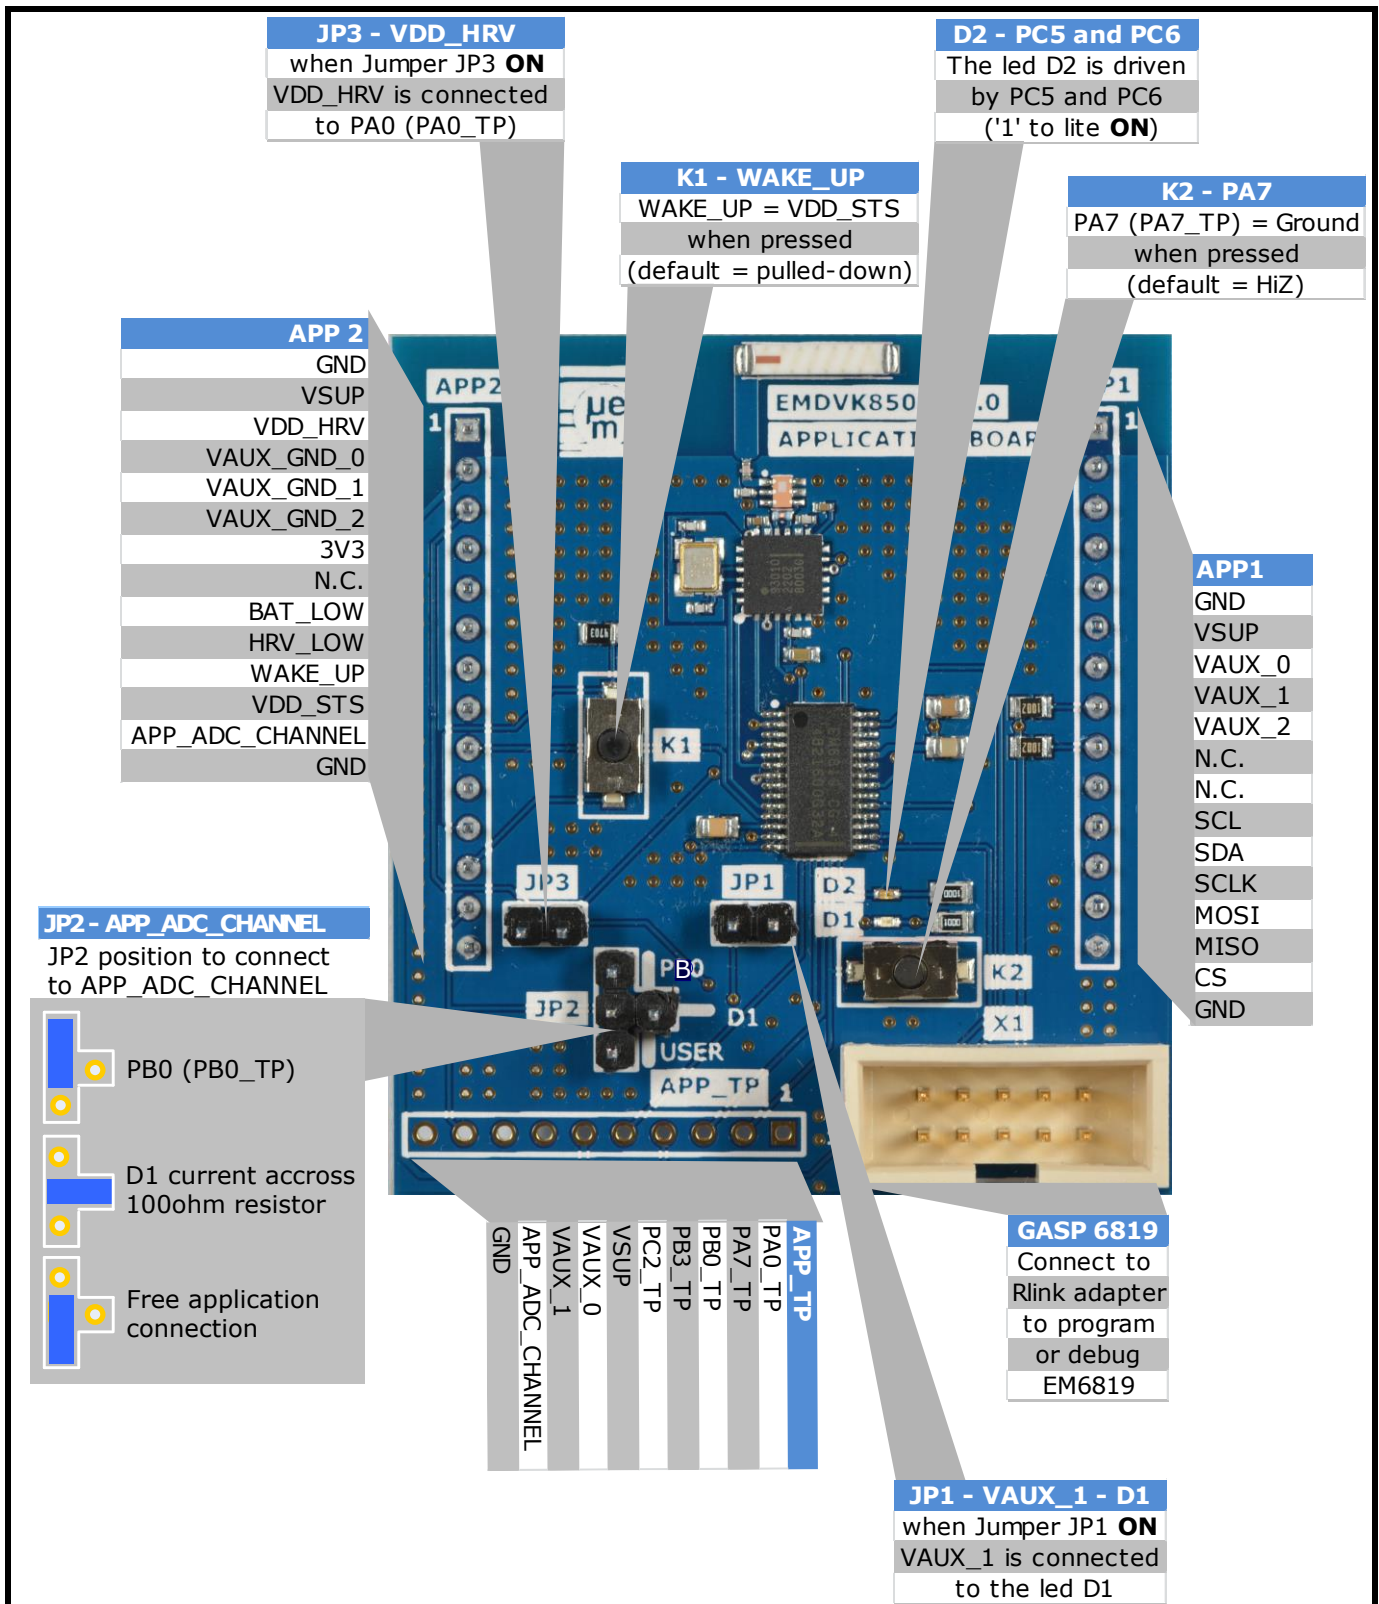
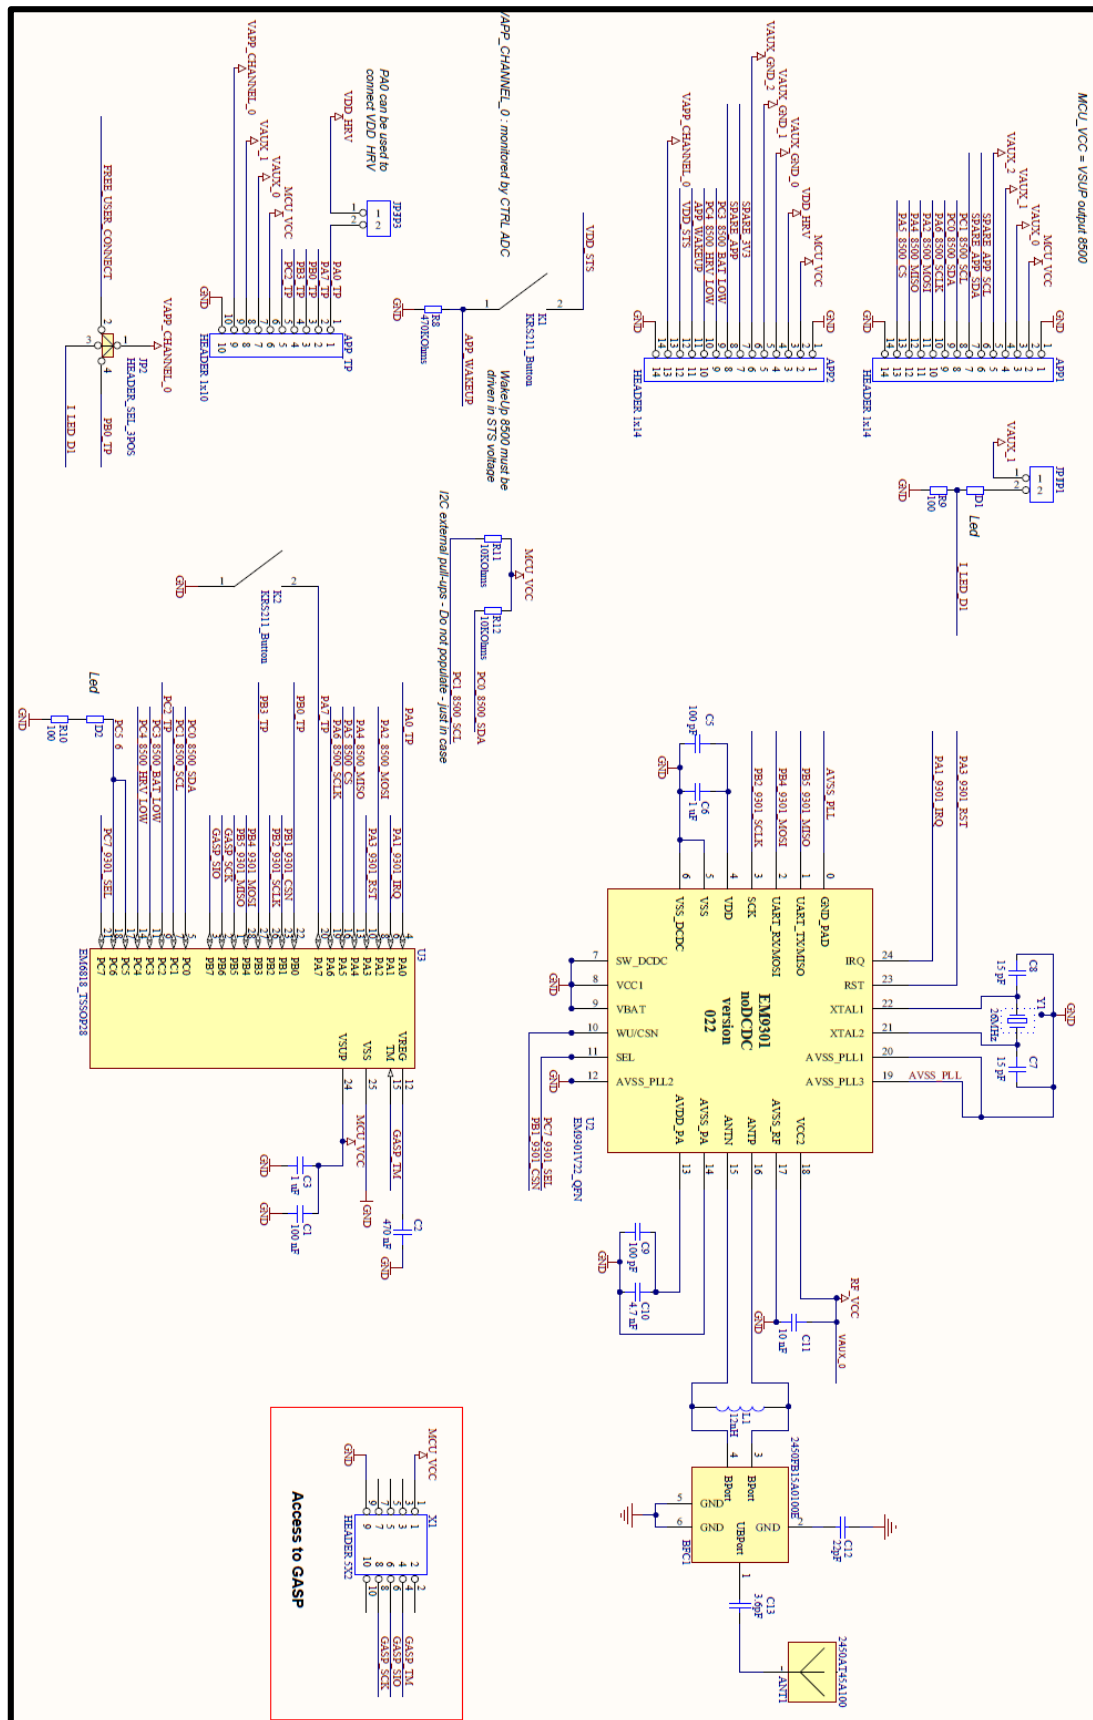
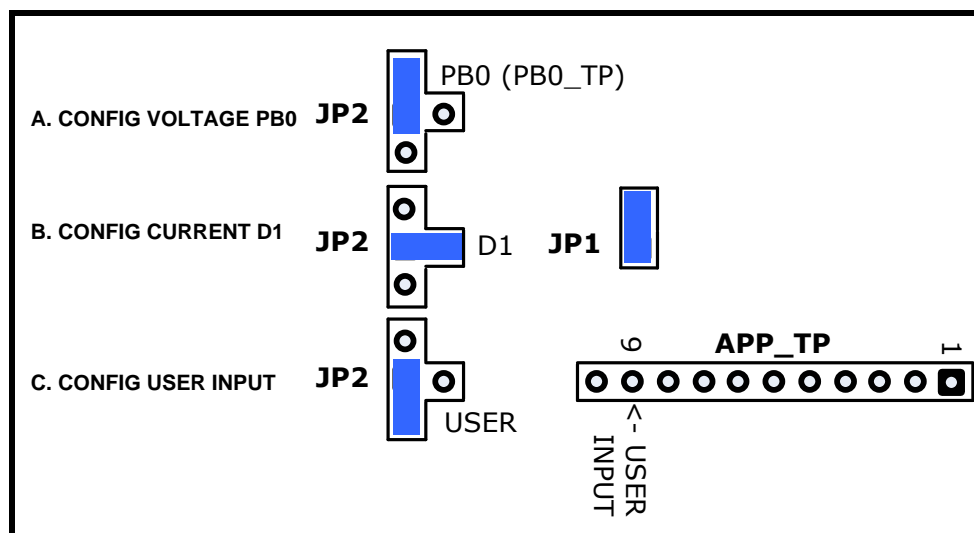

Figure 5-1: Application board description
Figure 5-2: Application board schematic
Figure 5-3: Configuration for ADC application input
One ADC single-ended channel is used for application board node voltage measurements. The node is shown in Figure 5-1: Application board description as "APP_ADC_CHANNEL" or Figure 5-2: Application board schematic as "VAPP_CHANNEL_0" or summarized below in Figure 5-3: Configuration for ADC application input.
The source of this ADC channel is selected through jumper JP2 as shown on the Figure 5-1: Application board description.
- By connecting JP2 in position "PB0" the EM6819 pad PB0 (GPIO Port B bit 0) is connected to the A/D channel APP_ADC_CHANNEL ("VAPP_CHANNEL_0"). See Figure 5-3: Configuration for ADC application input configuration A.
- By connecting JP2 in position "D1" the voltage across the resistor R9 serially connected to the LED D1, is connected to the A/D channel APP_ADC_CHANNEL ("VAPP_CHANNEL_0"). Additionally, to monitor the LED D1 current, the jumper JP1 must be placed to power D1 from the VAUX1 output of the EM8500. See Figure 5-3: Configuration for ADC application input configuration B.
- By connecting JP2 to position "USER" the user input is connected to A/D channel APP_ADC_CHANNEL ("VAPP_CHANNEL_0"). The user signal can be applied on the connector APP_TP (pin 9). See Figure 5-3: Configuration for ADC application input configuration C.